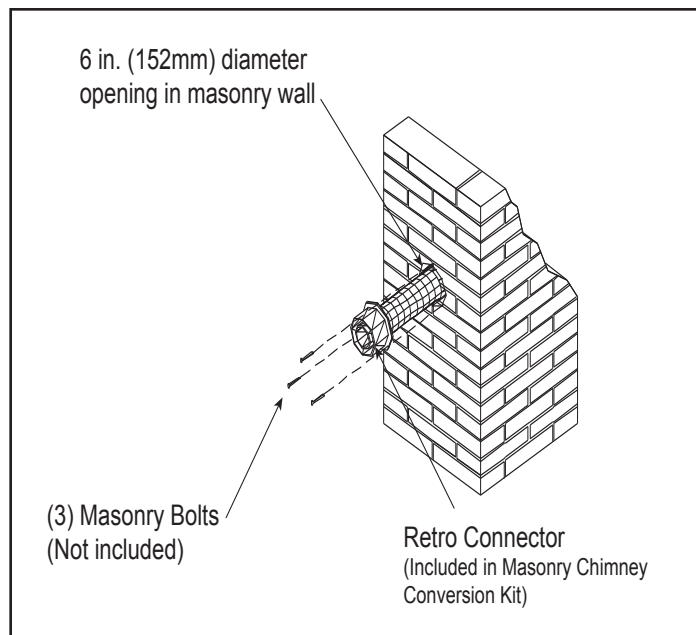

Figure 4.29
9. Attach the flex to the retro connector. Use three sheet metal screws to attach the flex liner to the connector. Mount the retro connector to the masonry wall using masonry bolts, Figure 4.29. Redrill larger holes on connector as needed. Be careful to ensure that the connector is centered in the opening and the mounting holes line up with the masonry wall.